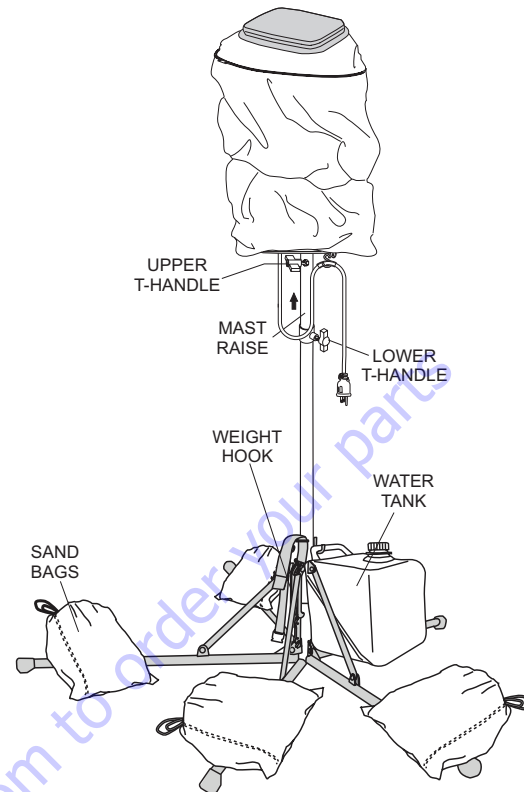

Figure 12. Sand Bags
Before raising the mast, make sure the upper T-handle bolt lock (Figure 12) is securely tightened. This will prevent the balloon/lamp assembly from falling off. In addition make sure that the lamp power cable is connected to the mating end of the 11 ft (3.35 meters) power source cable.
- To improve stability and to prevent tipping of the light unit, place sand bags or similar type weight over the pentapod legs or weight hook as shown in Figure 12.